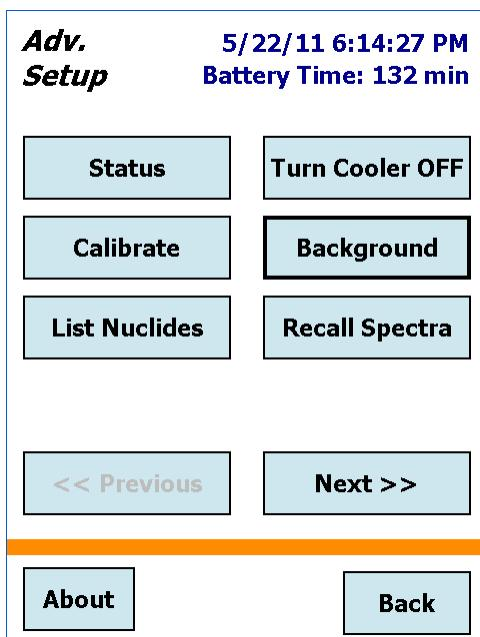
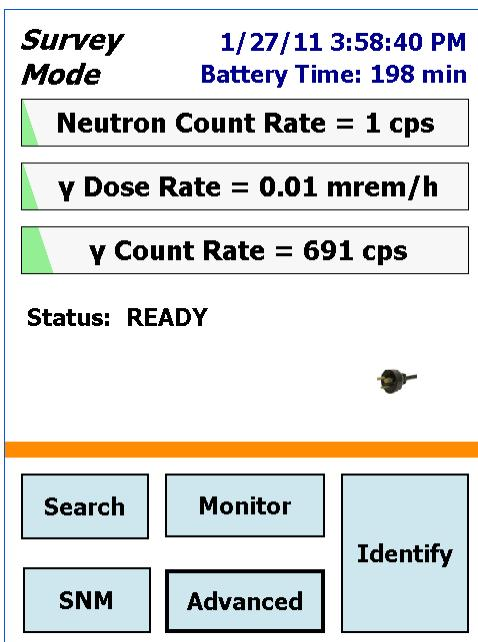

Figure 17. On the Advanced Menu, Tap the Calibrate Button.
Figure 23. The Survey Mode Screen.
- **Instrument Status Area** — The center of the Survey Mode screen provides brief indicator’s of the unit’s readiness for data acquisition. The Status is either **READY** (Fig. 23) or **Detector is warm**. In addition, warnings such as the high gamma dose rate message are posted in this part of the screen.
- To return to the preceding dialog, tap **Back**. For example, tapping **Back** from the Advanced Setup dialog (Fig. 17 on page 24) returns you to the Survey Mode screen (Fig. 23).
- On the Survey Mode screen, tap on **Advanced** (see Fig. 17), then **Calibrate**.
In Survey Mode (Fig. 23), the Detective-EX behaves as a passive monitor, showing the current gamma count and dose rate; neutron count rate (for units so equipped); instrument status; detector dead time, available disk storage space and battery charge; time and date; and GPS coordinates.
- To end this search and return to the Survey Mode (Fig. 23), tap **Back**. The current search data will be retained until the next identification or search. (You can display the most recently acquired search or identification spectrum from the Survey Mode screen.)